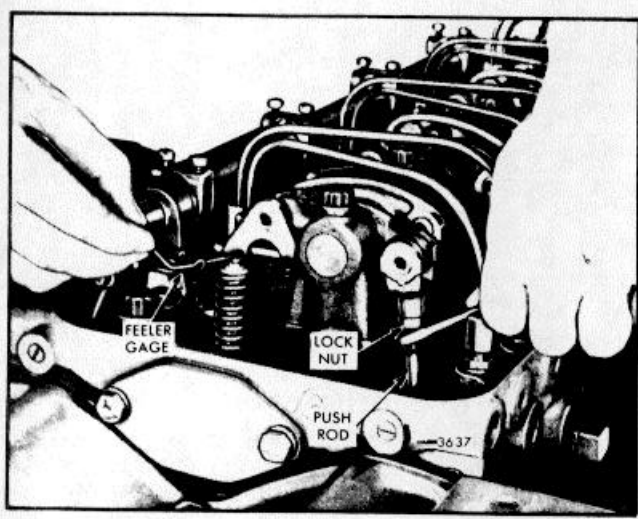

Fig. 2 - Adjusting Valve Clearance (Four-Valve Cylinder Head)
5. Place a .026" feeler gage (J 9708-01) between the end of one exhaust valve stem and the rocker arm bridge (Fig. 2). Adjust the push rod to obtain a smooth pull on the feeler gage.